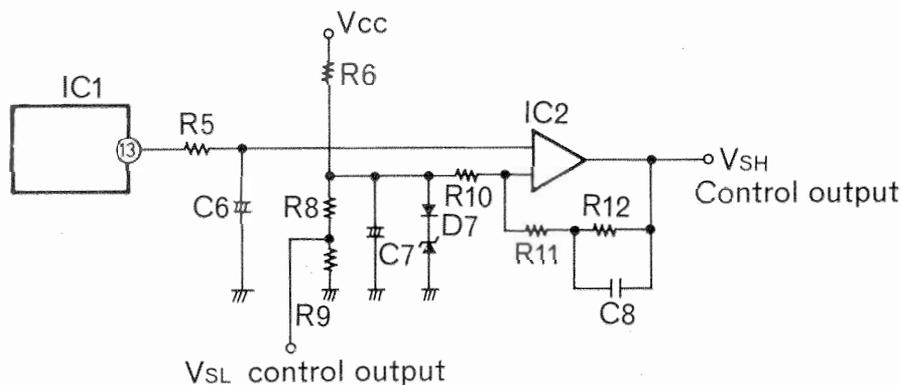

Fig. 28
The f-v converted signal obtained from terminal (13) of IC1 passes through the low-pass filter composed of R5 and C6 shown in Fig. 28, and then compared after phase & temperature compensation by the next differential amp.